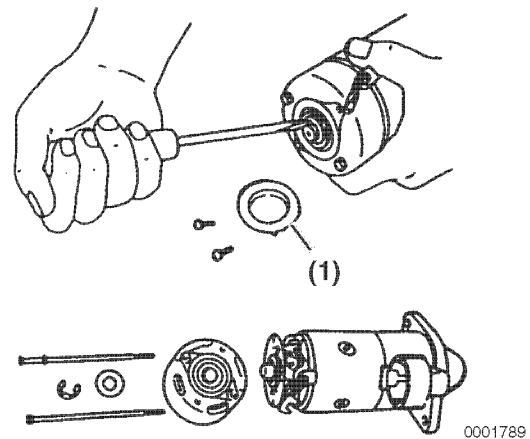

Figure 8-34
12. Install the rear dust cover (**Figure 8-34, (1)**).